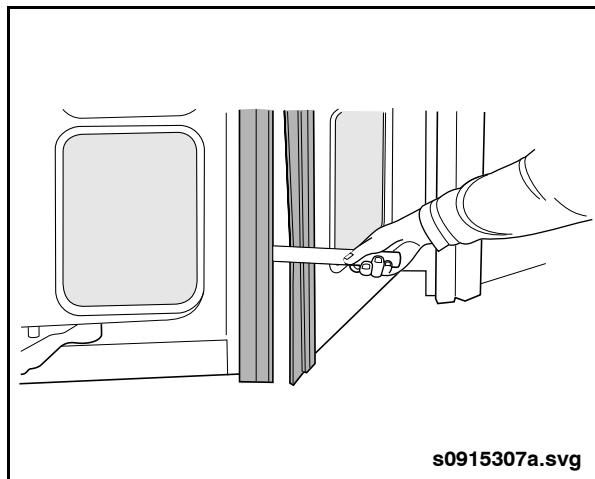

Fig. 16-24: Rod Test
6. Standing outside the vehicle with the door closing, hold a 1 inch diameter rod (hardwood or metal approximately 18 in. (45.72 cm) long) perpendicular to the side of the vehicle at the vertical centerline of the door opening, 12 inches above the bottom of the door panels. See "Fig. 16-24: Rod Test" on page 49.